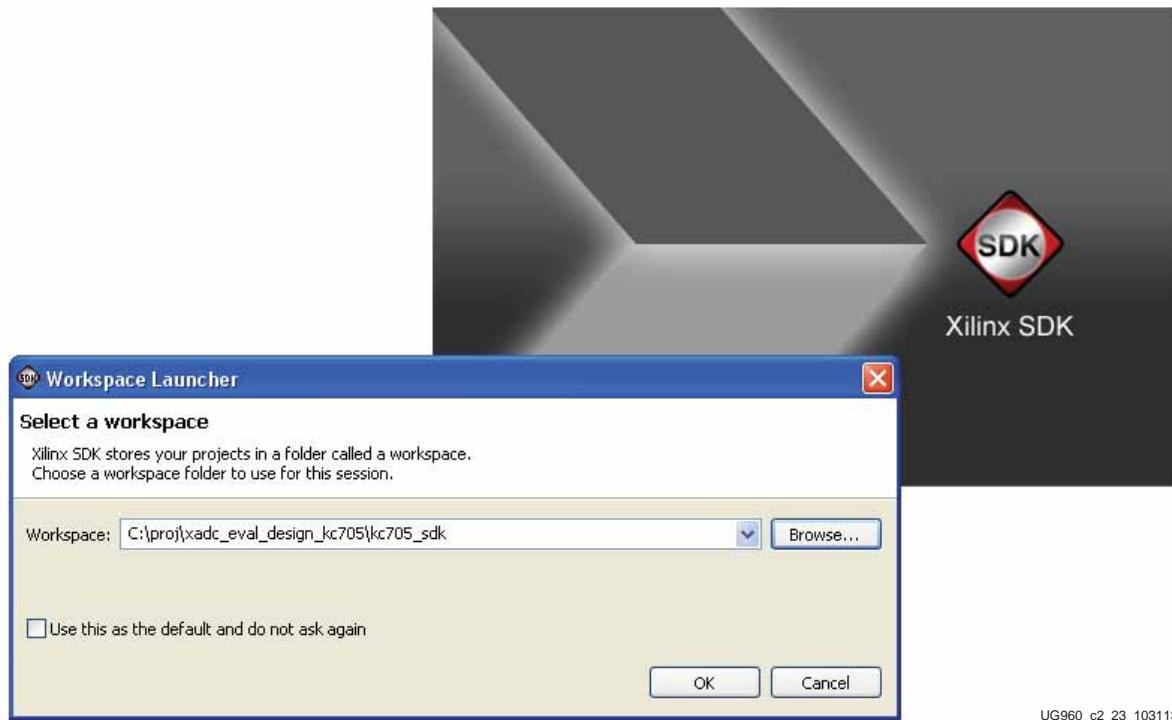

Figure 2-23: Selection of Work Space in SDK
3. Open the Xilinx SDK from the Windows environment by clicking **Start > All Programs > Xilinx Design Tools > SDK 14.5 > Xilinx Software Development Kit**. Select work space as the location where the `SDK_Export` design is copied (Figure 2-23).